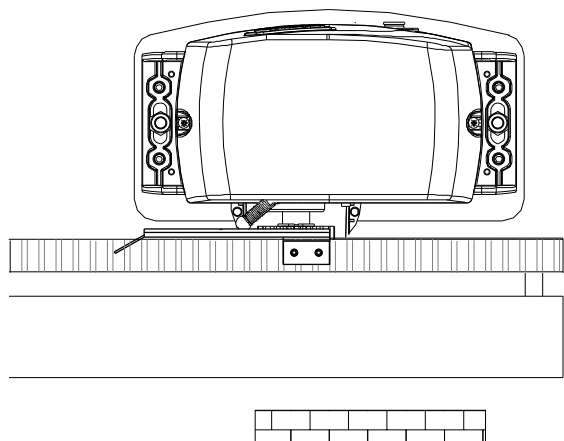
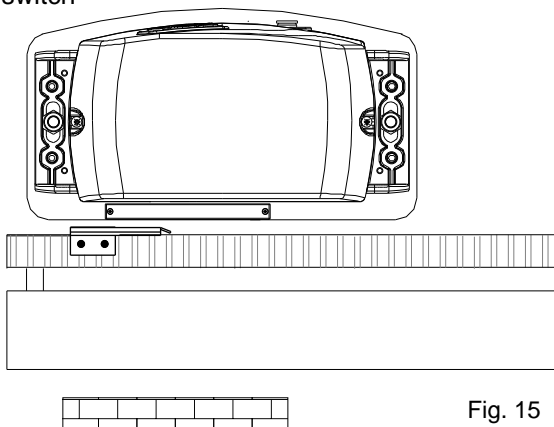
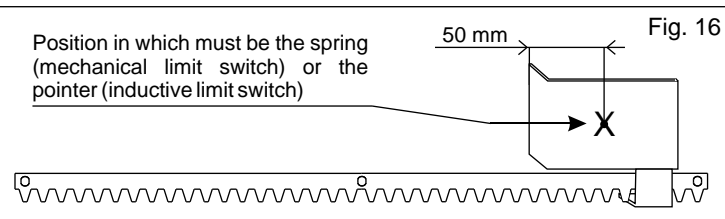
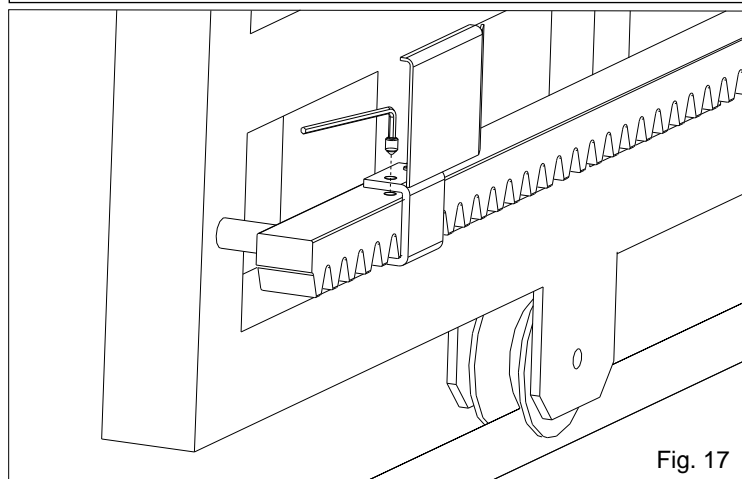

Fig. 14
Fig. 15
Fig. 16
Fig. 17
- Place the small plate on the gear rack so that the limit switch is (small lever in case of mechanical limit switch (Fig. 14); small pointers placed on the upper part in case of inductive limit switch (Fig. 15)) in corrispondence of point X which is placed 50 mm from the folded side of the small plate (fig. 16) and fix it with the delivered screws (Fig. 17).
- Place the small plate on the gear rack so that the limit switch is in corrispondence of point X which is placed 50 mm from the folded side of the small plate (fig. 16) and fix it with the delivered screws (Fig. 17).